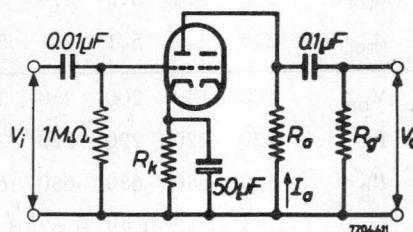

Fig.1
A.F. amplifier - circuit fig.1 (continued)